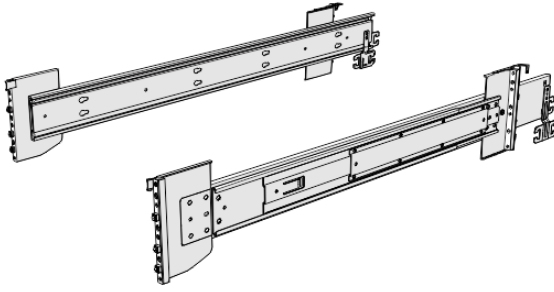

Figure 44. Support rails
1. Locate the hardware that is used to install the rails, including the M4xL6 and M5xL13 screws. Set the hardware, which is shown in Figure 44 on page 86, aside for use later in the installation process.